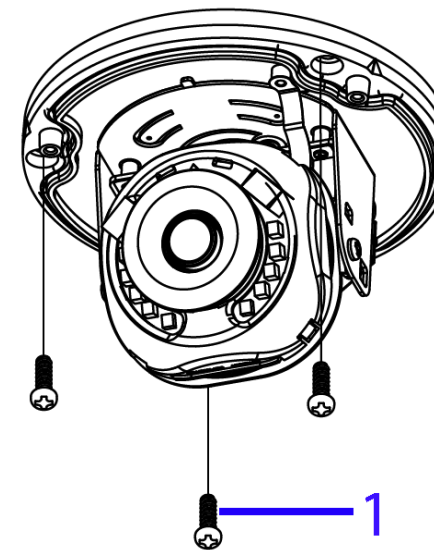

Figure 5
E. Insert the three tapping screws (1) (Figure 5) into the three holes on the camera body and using the screw driver securely attach the camera to the wall / ceiling.